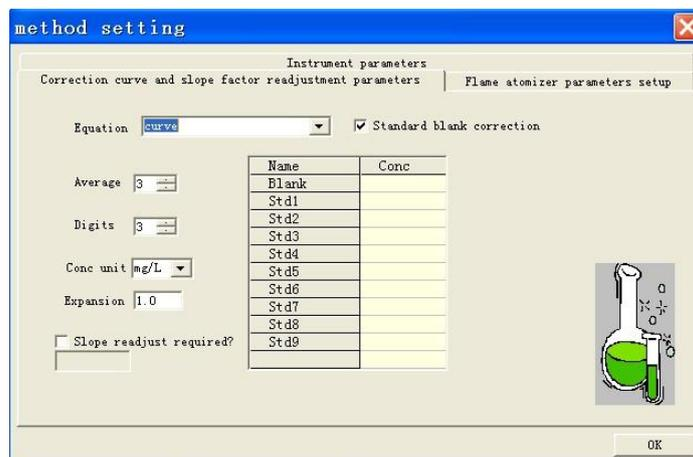

Figure 5-17
5. Press "Settings" to enter the "Correction curve and slope factor readjustment parameters" screen, as shown in Figure 5-17.